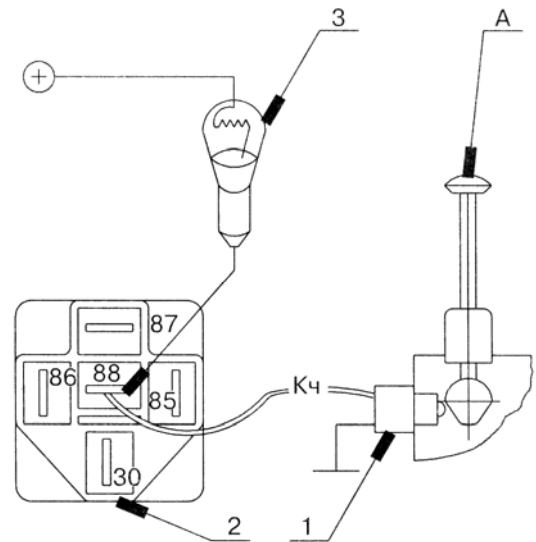

Fig. 11. Checking the integrity of the interlock circuits to the switch on the gearbox casing:
a) check the integrity of the circuit from the interlock relay (K6) to the switch SA11 on the gearbox casing. To do this, connect the test lamp between the terminal "+" of the storage battery and the terminal "88" of the relay (wire K4), (Fig. 11). When it will be done,